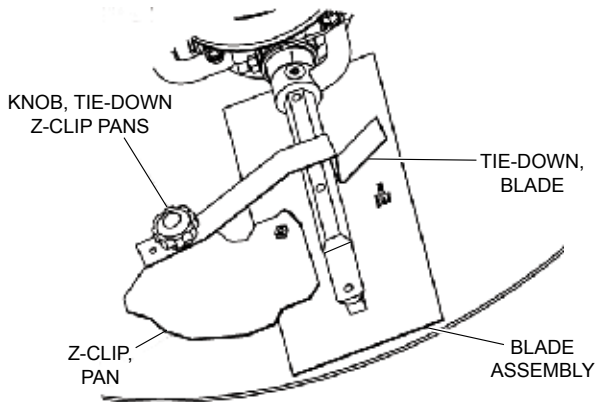

Figure 48. Z-Clip Finisher Pan Installation
Refer to Figure 48 when installing pans onto finisher blades.
3. Attach the blade tie-downs to the far side of the Z-Clip brackets with tie-down knobs as shown in Figure 48.